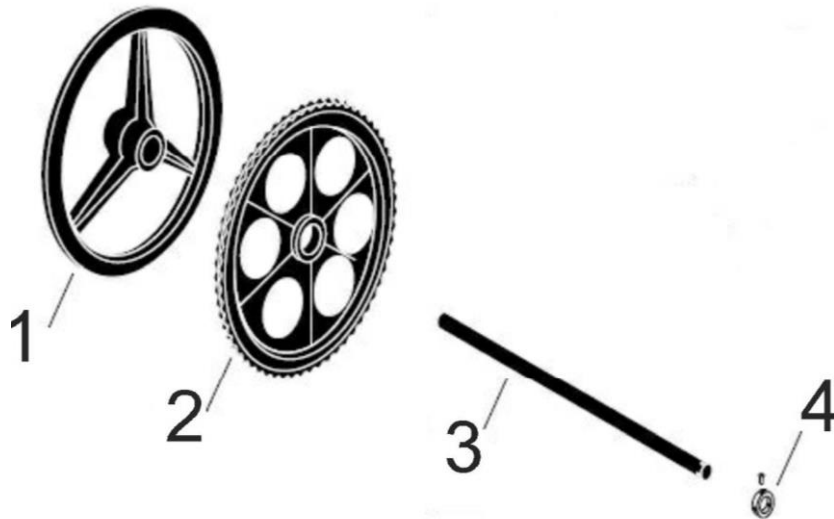

Figure 3 Elements of the MCB/MCW roller working section: 1- plain wheel, 2- gear wheel, 3- roller axle, 4- retaining ring.
- The **working section (roller)** is a component consisting of a series of iron castings positioned on the axis of the working shaft (Figure 3). The shaft is bearing-mounted at the ends of the axle. The plain wheel is seated on the shaft axle, while the larger diameter gear is seated on the protruding part of the hub of the plain wheel and can rotate independently on it. The difference in speed of the rotating wheels clears the roller with sticky soil.